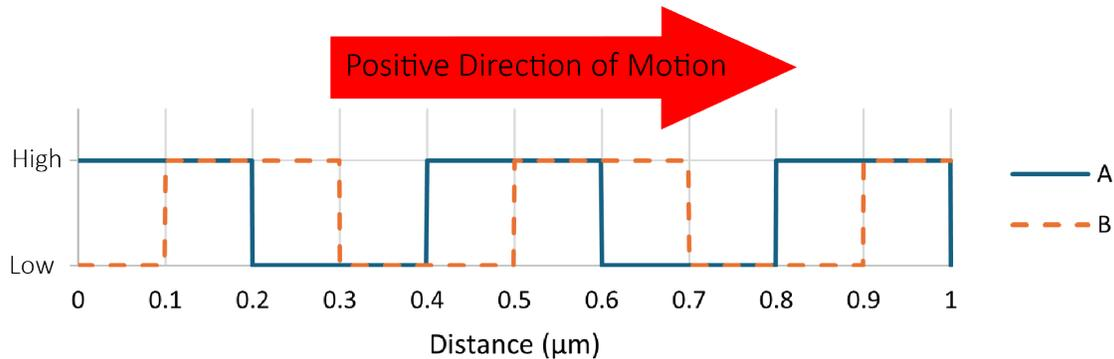
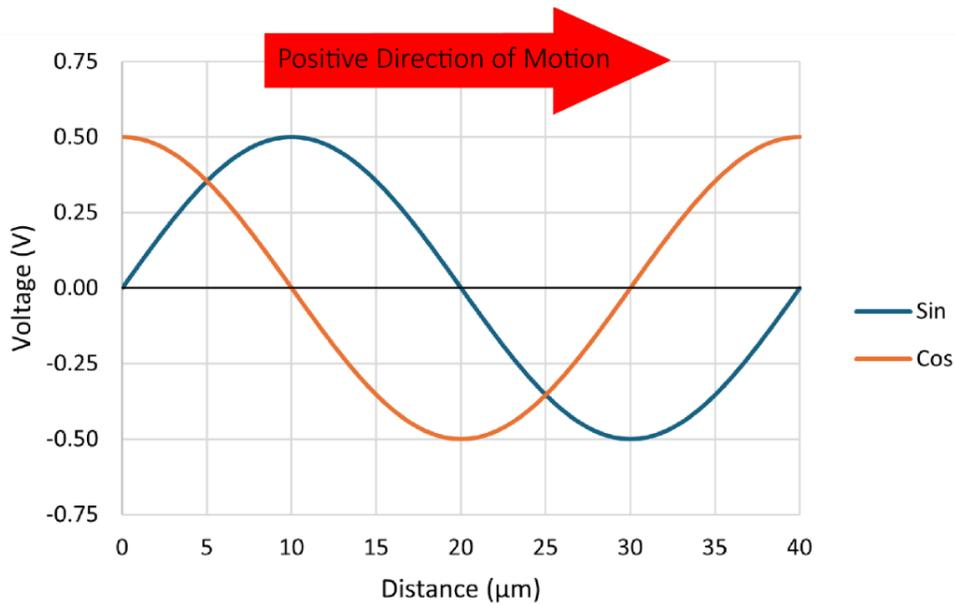

Figure 18. Digital Quadrature Encoder “CC” Output Signals
Figure 19. 1Vpp Encoder “U” Output Signals
As standard, the LM9 can be ordered with a digital quadrature “CC” or an analog Sin-Cos “U” encoder. Both encoder options use the same scale, which has a 40 μm period. Figure 18 (CC) and Figure 19 (U) detail the output waveforms of both options.
As seen in Figure 18, the “CC” quadrature encoder produces 2 square waves, A and B, offset by a 90° phase angle. The waveforms shown above represent the differential voltage between the positive signal (A+ or B+) and its inverse counterpart (A- or B-). Each signal has a wavelength of 0.4 μm (100x interpolation). Every 0.1 μm , one of the two signals rises or falls; this can be interpreted by the servo drive/controller as a single encoder count.
As seen in Figure 19, the “U” quadrature encoder produces 2 sinusoidal waves, Sin and Cos (offset by a 90° phase angle). The waveforms shown above represent the differential voltage between the positive signal (Sin+ or Cos+) and its inverse counterpart (Sin- or Cos-). Each signal has a wavelength of 40 μm . Each signal must be interpolated into encoder counts within the servo drive/controller. Interpolation beyond 200x (0.05 μm) is not recommended.